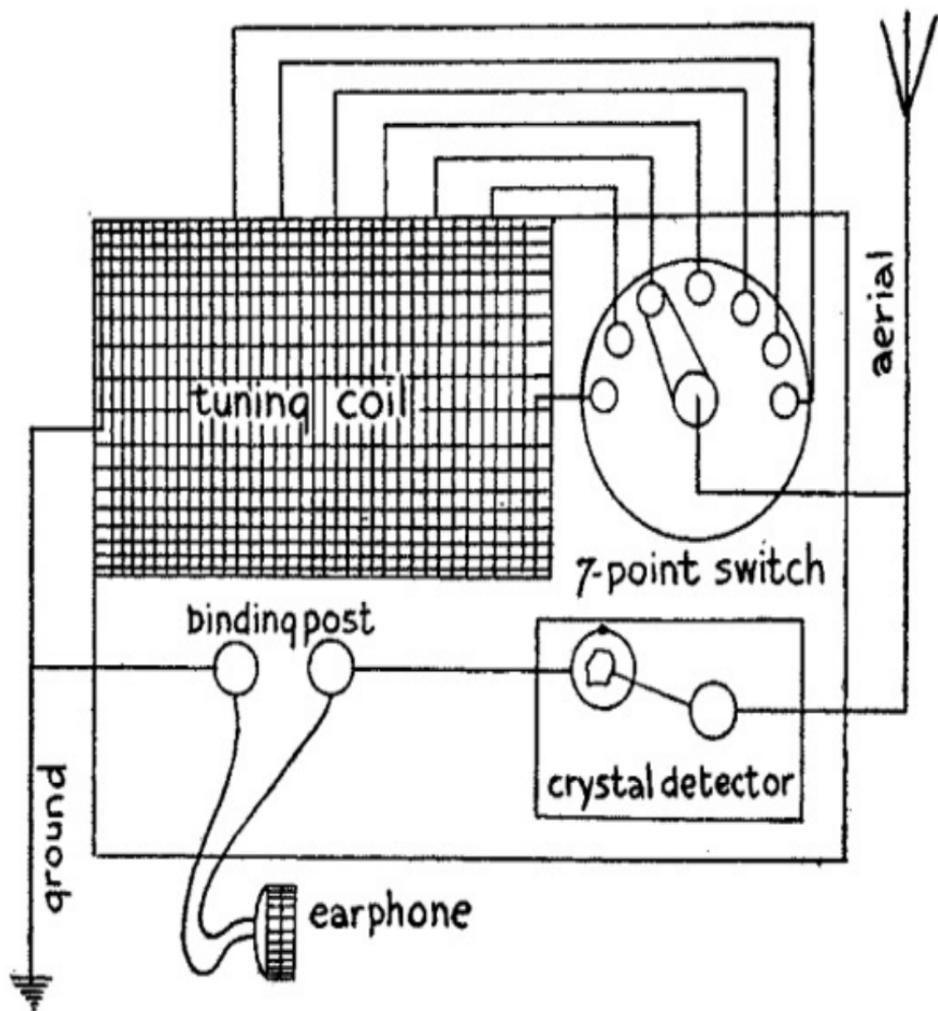
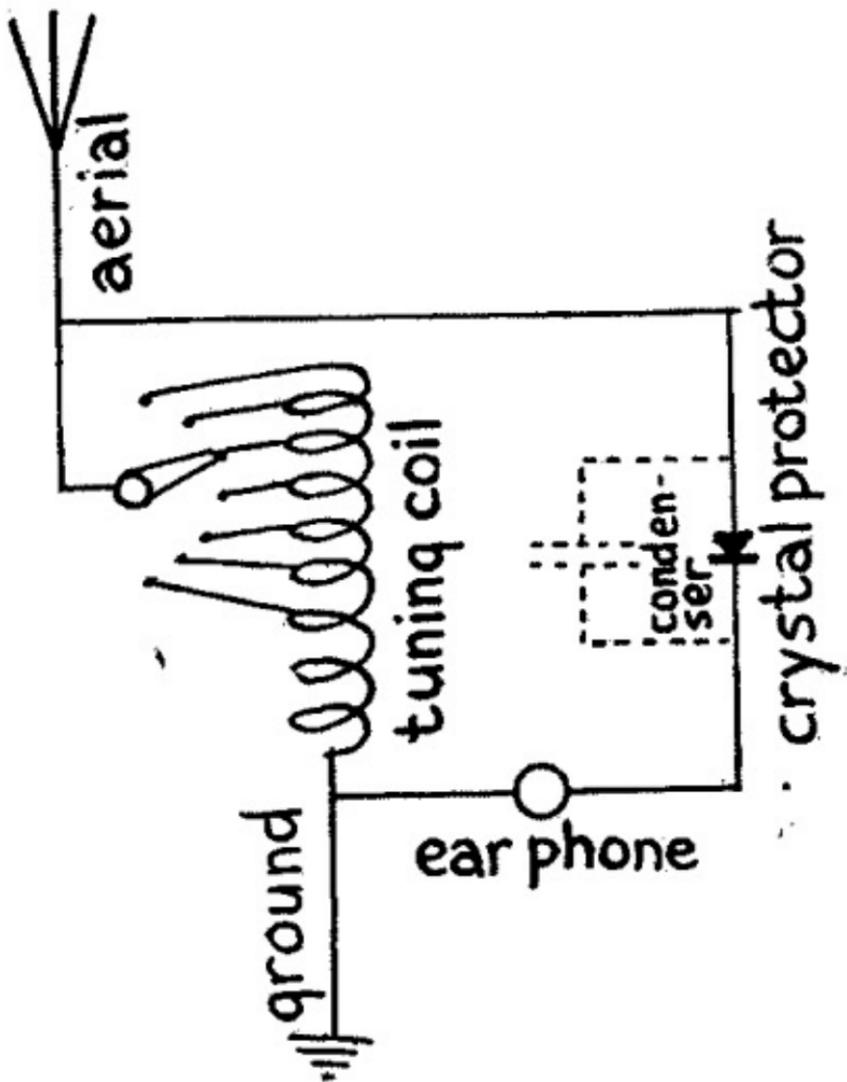

FIG. 99.—Schematic Layout of \$5.00 Receiving Set.
FIG. 100.—Wiring Diagram for \$5.00 Receiving Set.
As you wind on the wire take off a tap at every 15th turn, that is, scrape the wire and solder on a piece about 7 inches long, as shown in *Fig. 99*; and do this until you have 6 taps taken off. Instead of leaving the wires outside of the tube bring them to the inside of it and then out through one of the open ends. Now buy a *round wood-base switch* with 7 contact points on it as shown at *B* in *Fig. 97*. This will cost you 25 or 50 cents.
*How to Mount the Parts.*--Now mount the coil on a wood base,  $\frac{1}{2}$  or 1 inch thick,  $3\frac{1}{2}$  inches wide and  $5\frac{1}{2}$  inches long, and then connect one end of the coil to one of the end points on the switch, and connect each succeeding tap to one of the switch points, as shown schematically in *Fig. 99* and diagrammatically in *Fig. 100*. This done, screw the switch down to the base. Finally screw the detector to the base and screw two binding posts in front of the coil. These are for the earphone.
*How to Connect Up the Receptor.*--Now connect up all the parts as shown in *Figs. 99 and 100*, then connect the leading-in wire of the aerial with the lever of the switch; and connect the free end of the tuning coil with the *ground*. If you have no aerial wire try hooking it up to a rain pipe that is *not grounded* or the steel frame of an umbrella. For a *ground* you can use a water pipe, an iron pipe driven into the ground, or a hydrant. Put on your headPHONE, adjust the detector and move the lever over the switch contacts until it is in adjustment and then, if all your connections are properly made, you should be able to pick up messages.